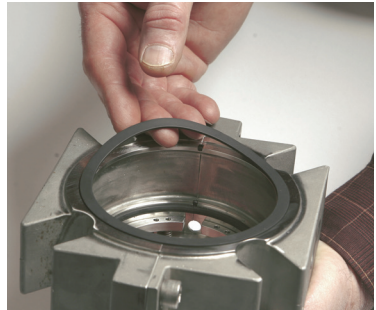

Figure 19
- 8.4 Center the gland gasket in the gasket groove and hold it in place with hand pressure for 10 seconds until the adhesive sets. On larger sizes use a flat plate to ensure firm equal pressure around the entire circumference. See Figure 19.